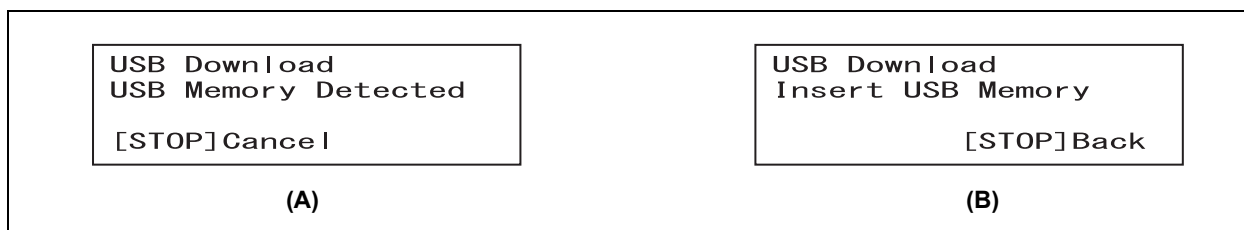

Figure 7.13
- 6** Select “Leak Test Log”, “Error Log”, or “Total Log” by operating the ▲ and ▼ buttons and press the ENTER button. The screen shown in Figure 7.13 (A) is displayed. If the portable memory is not connected, the screen shown in Figure 7.13 (B) is displayed. Insert the portable memory into the portable memory port until it stops. When connection of the portable memory has been confirmed, the message shown in Figure 7.13 (A) is displayed, and downloading starts automatically.